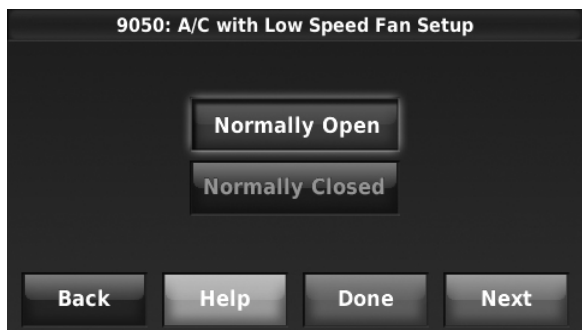

Fig. 220.
5. Select whether the U1, U2, or U3 terminals are Normally Open or Normally Closed. See Fig. 220.